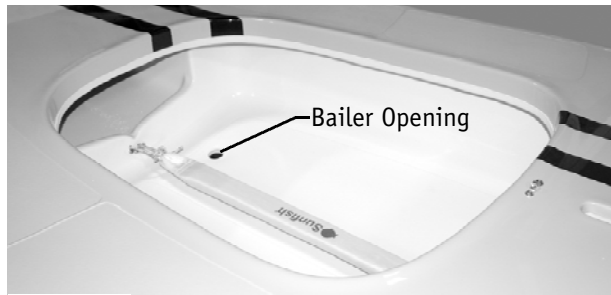
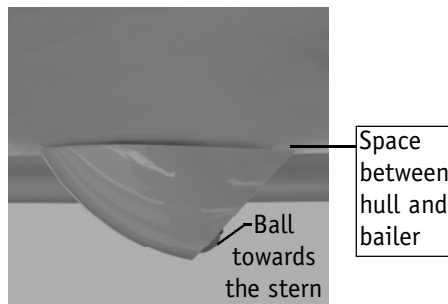

Figure: 12
Figure: 13
4. Locate the bailer opening in the cockpit (Figure 12). Take the bailer housing with o-ring and place it under the hull, sliding it up through the cockpit. Make sure that the ball in the housing is facing towards the stern of the boat (Figure 13).